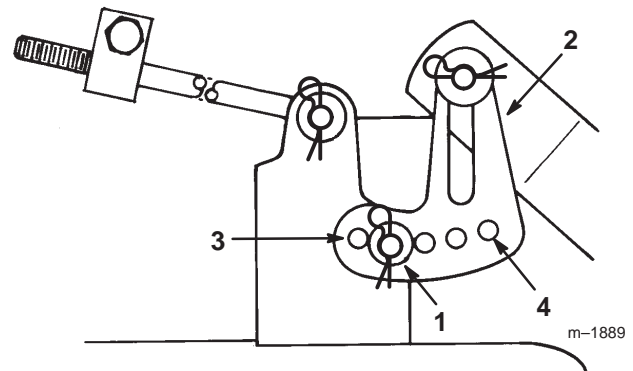

Figure 48
5. Remove the hair pin cotter and washer from the leveling bracket (Fig. 48). To level the blade(s), reposition the leveling bracket in a different hole and install the washer and hair pin cotter.
(Fig. 48). A front hole lowers the blade height and a rear hole raises its height. Repeat this procedure on the opposite side.